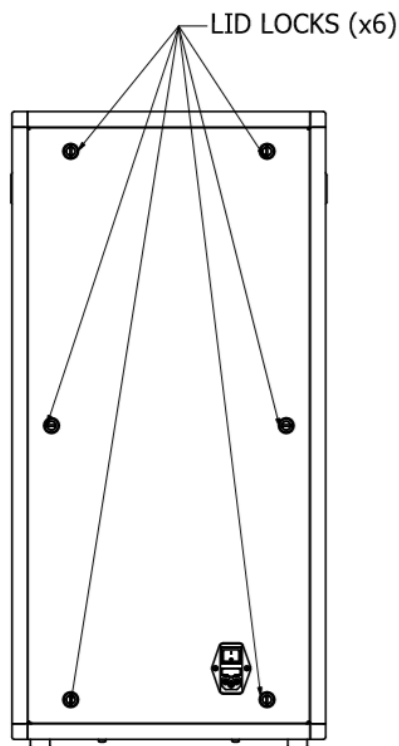

Fig. 8 Cover locks
- 1) Open locks using key contained in the set (90° turn) [Fig.8].